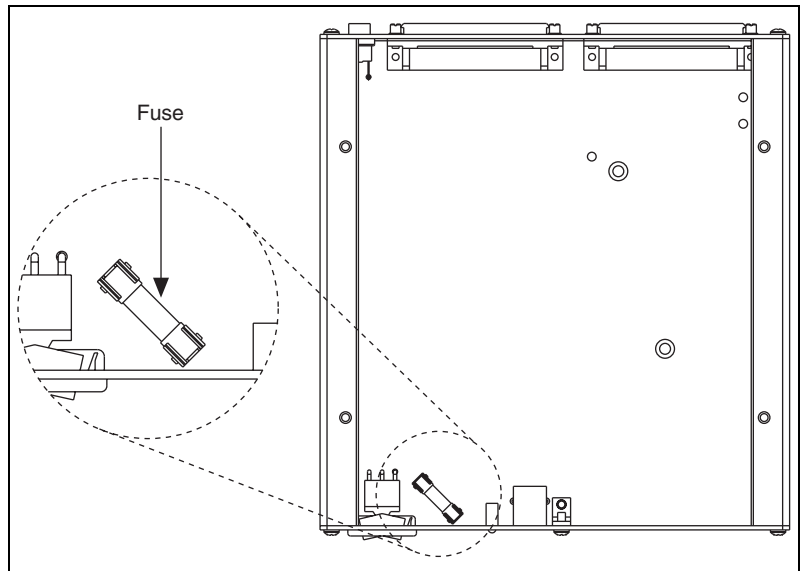

Figure A-19. USB-6259 Mass Termination Fuse Location
2. Replace the fuse while referring to Figure A-19 for the fuse location.